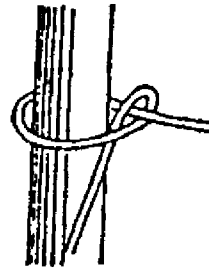

Fig. 3-32-1
- a. Wrap one end of the rope around the spar and tie a loose overhand knot. (Fig. 3-32-1)